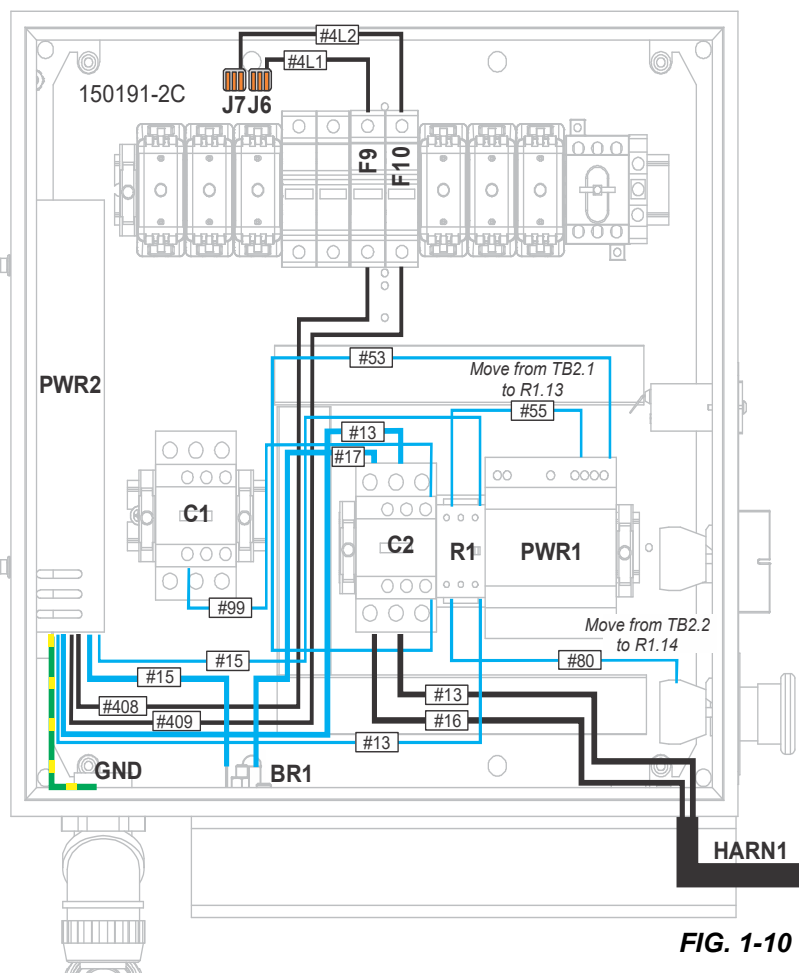

FIG. 1-10
8. Remove the cable duct covers to access the control wiring. See Fig. 1-10.
Connect wire #16 to contactor terminal #2/T1. See Fig. 1-10.